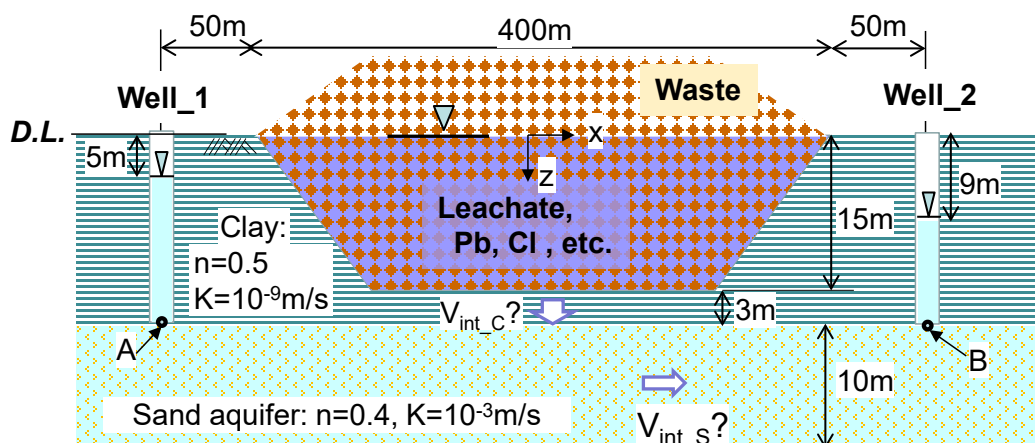

Fig.1
2. Consider a deep pit solid waste disposal facility constructed in 18m thick horizontal saturated clay layer as shown in Fig.1. Underneath the clay layer, there is a sand aquifer with constant thickness (10m). In the waste leachate, two chemicals, lead (Pb) and chloride (Cl) are dissolved in relatively high concentration. Two monitoring wells are installed at the upstream side (Well\_1) and downstream side (Well\_2). Using the hydrogeological conditions and the others given below, answer the following questions. (50)